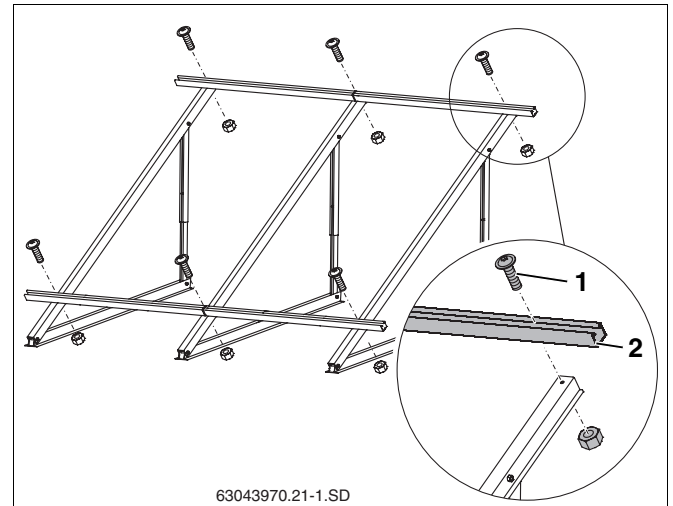

Fig. 34 Fitting profile rails (for two portrait collectors in this example)
- ▶ Lightly tighten the pre-assembled profile rails (Fig. 34, **Item 2**) with M8 x 20 bolts (Fig. 34, **Item 1**) so that the profile rails can still be aligned.